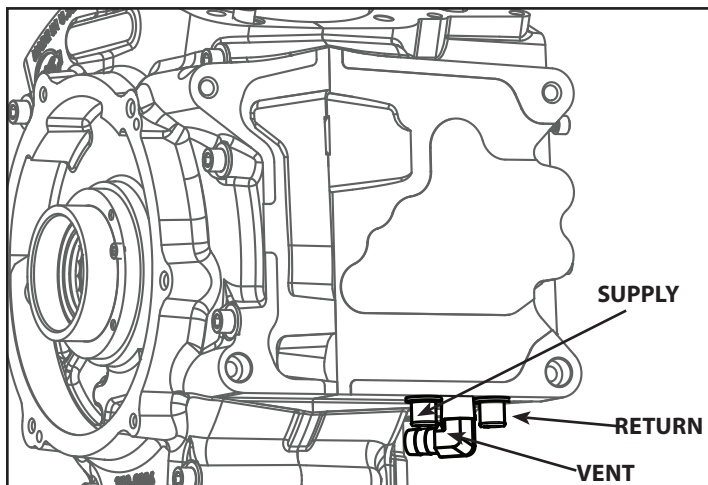

Figure 2
- a. Oil line mock-up is recommended to get an idea of final routing before cutting any oil line. Refer to **Figures 2 & 3, above** for correct placement on crankcase.